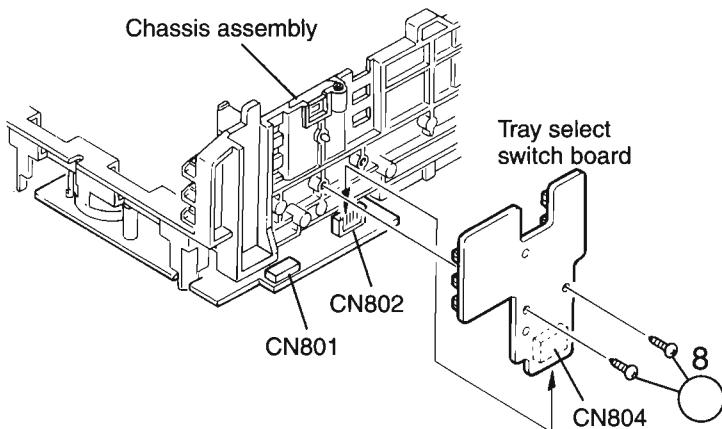

Fig.15
- Remove the two screws 8 retaining the tray select switch board(See Fig.15).
■ Removing the can unit (See Fig.15 ~ 18)
- While turning the cam gear L, align the pawl "N" position of the drive unit to the notch position(Fig.15) on the cam gear L.